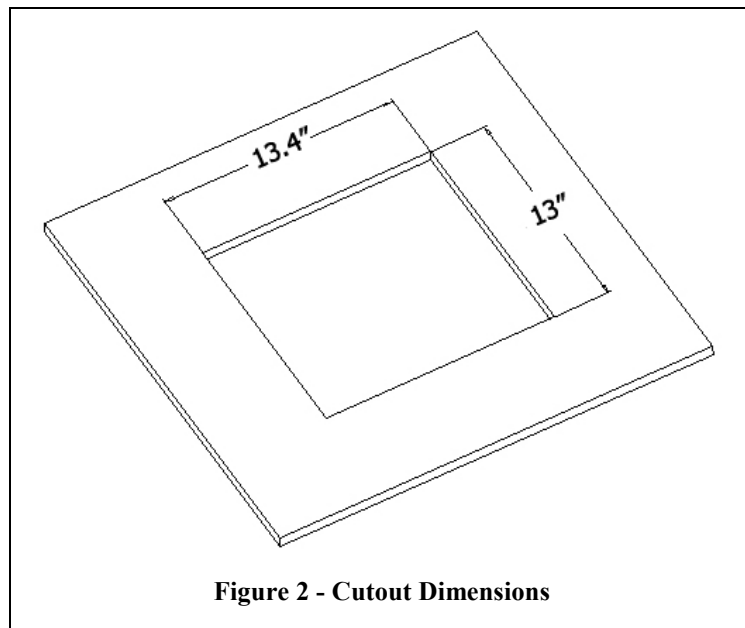

Figure 2 - Cutout Dimensions
Step 2 – Place the enclosure assembly on the work surface. Remove one of the 1" trade size hole cover on the side of the enclosure and install the 1" trade size conduit connector (the side on which the trade size cable clamp is to be installed will be determined by the location the enclosure is to be installed and direction from which conduit will be brought into the enclosure – ref. Figure 2).